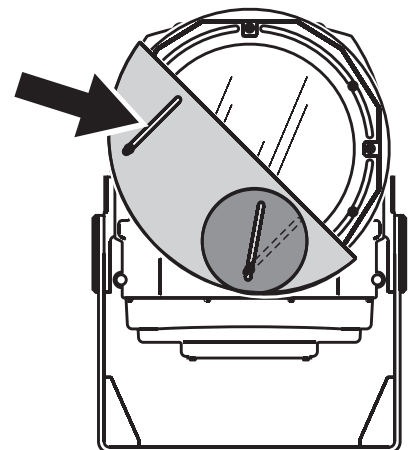

Figure 5: Overspill mask
2. See Figure 5. To avoid unwanted light from the slots (arrowed) in the barn doors, install the supplied overspill masks **F** as illustrated, turning them so that they cover the slits. Use screws **H** with washers **I** to fasten the barn door and masks to studs **E**.